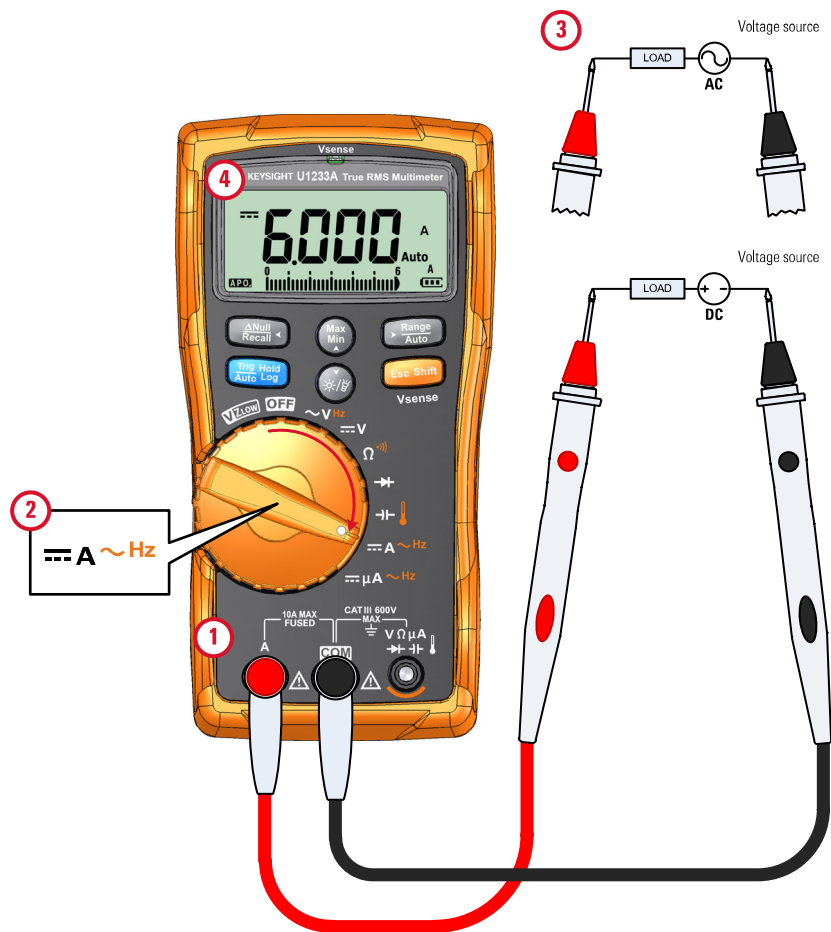
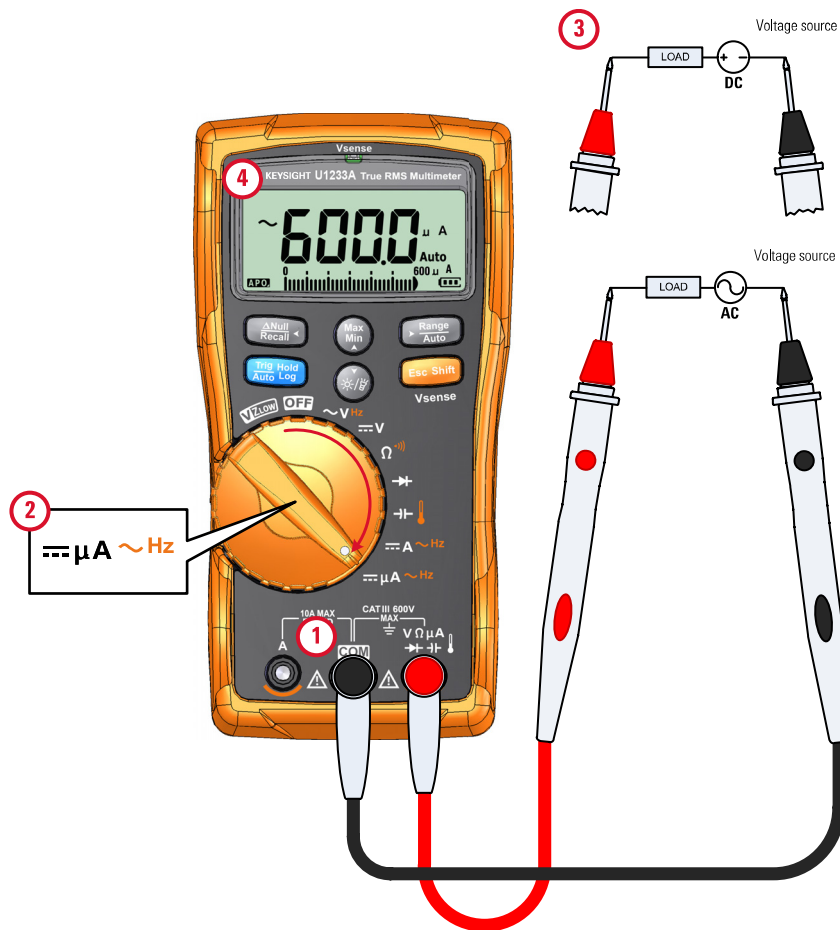

Figure 2-24 Measuring DC/AC current (up to A)
Figure 2-25 Measuring AC/DC current (up to μA)
Set up your multimeter to measure AC or DC current as shown in Figure 2-24 and Figure 2-25. Probe the test points and read the display.
- 1 Set up your multimeter to measure μA measurements as shown in Figure 2-25.